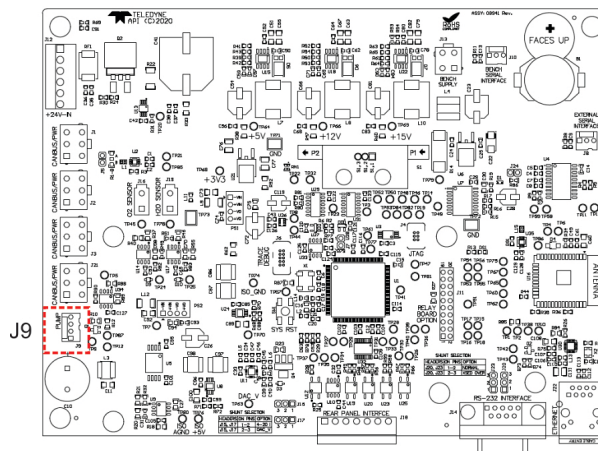

Figure 7-2. J9 Pump Connector on Mainboard
3. Unplug the pump power connector from the mainboard PCA at connector J9 (Figure 7-2).
First, unplug the sample pump power plug, J9 on the Mainboard PCA (refer to Figure 7-1 for pump location and Figure 7-2 for connector location) and observe the pressure reading. If the pressure reading is still too low, then likely there is a problem with the pressure sensor on the Sensor Module and the Sensor Module should be replaced.